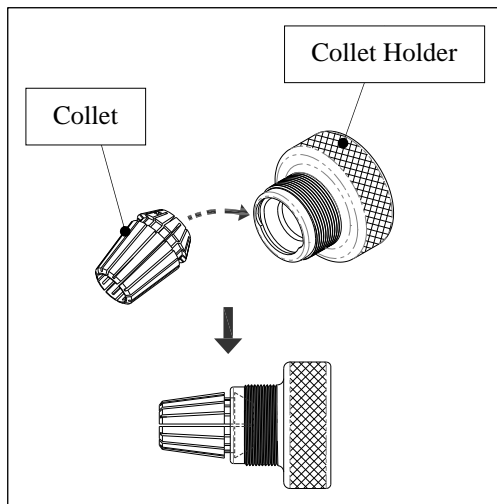

Fig. 5-1
2. Insert the collet into collet holder by 45°. (Fig. 5-1)